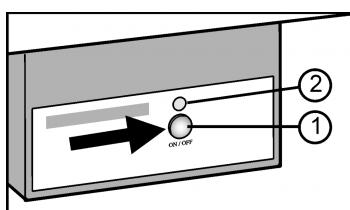

Fig. 11
- Press On/Off button *Fig. 11 (1)* so that the LED *Fig. 11 (2)* lights up.